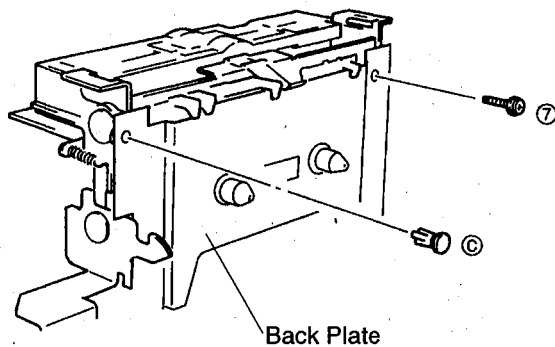

Fig. 7
- a. Remove 1 screw ( ⑦ ) and 1 plastic rivet ( ③ ) in Fig. 7 and then remove the Back Plate.